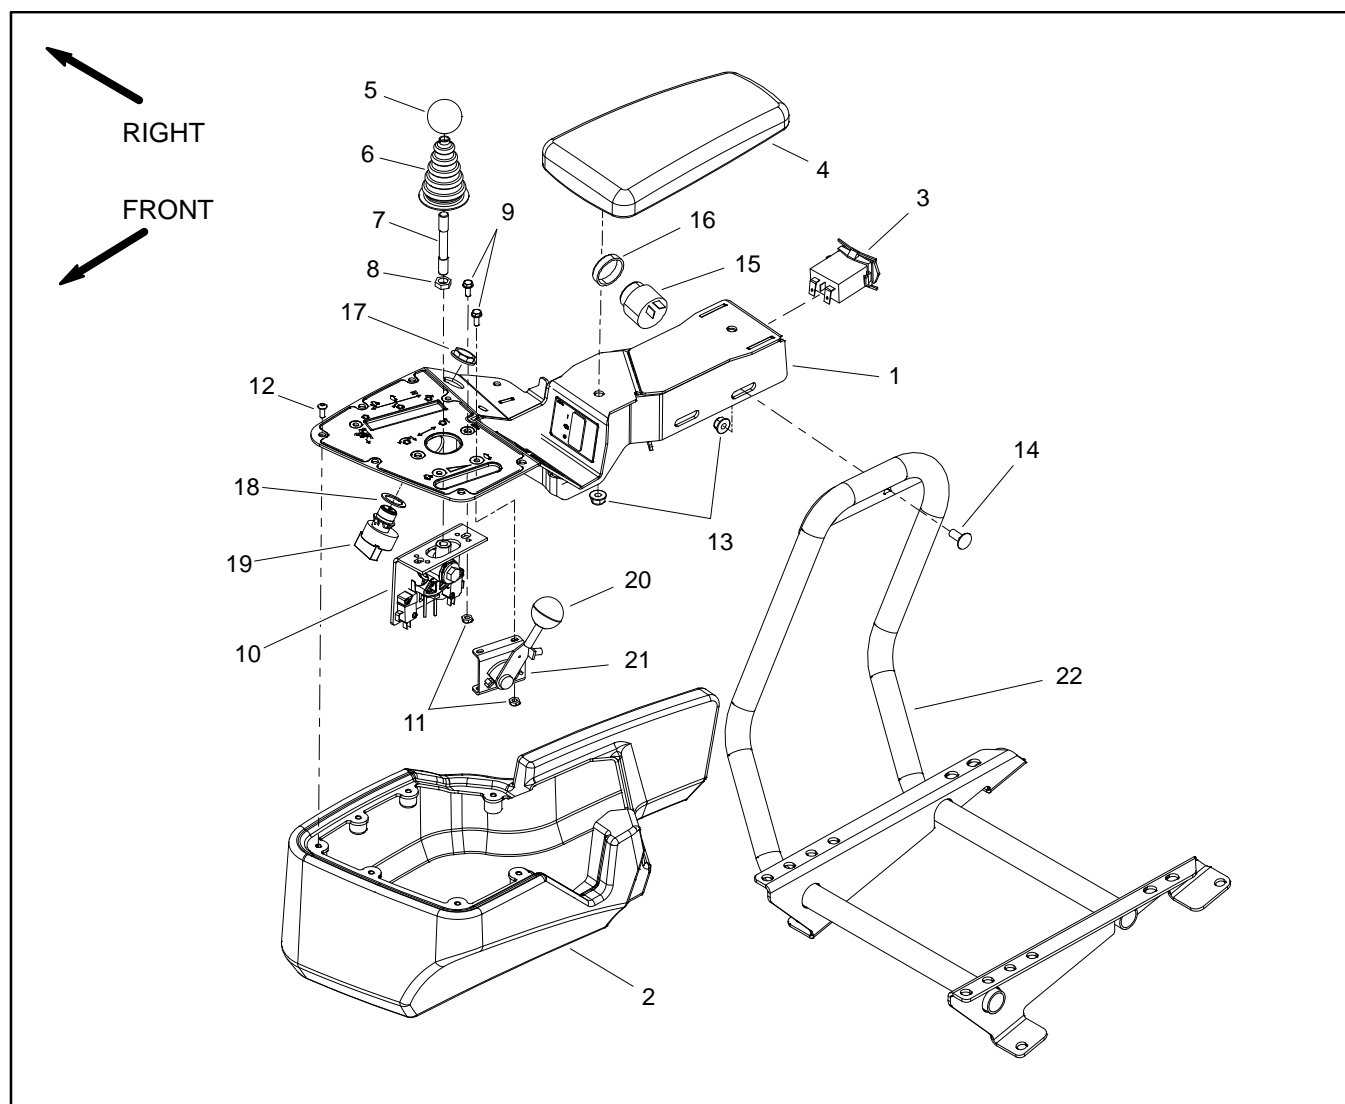

Figure 12
Disassembly (Fig. 12)
2. Remove screws (item 12) that secure console cover (item 2) to console. Lower cover to allow access to console components.
3. Remove components from control console as needed using Figure 12 as a guide.
Assembly (Fig. 12)
3. Install all removed components to control console using Figure 12 as a guide.
4. Position console cover (item 2) to console and secure with screws (item 12).